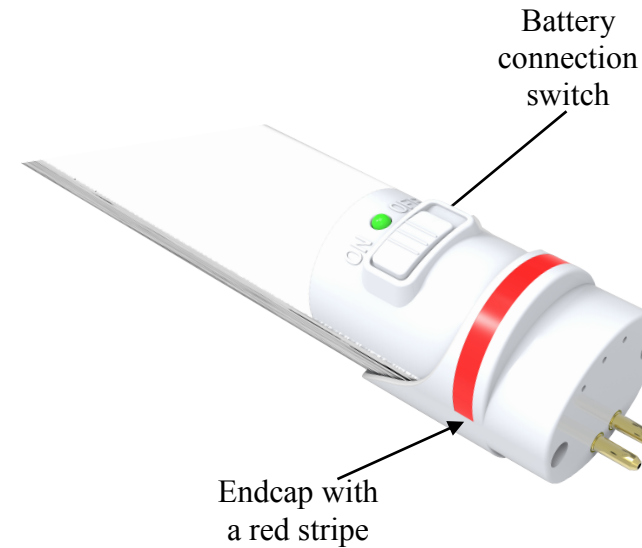

Fig. 2
8. **IMPORTANT:** Turn on a battery connection switch near the endcap with the red stripe. The battery connection switch comes with a default “off ”to prevent the built-in battery from being depleted and damaged. The lamp may be lighted in a dimmed light level powered by the built-in battery (see Fig. 2).